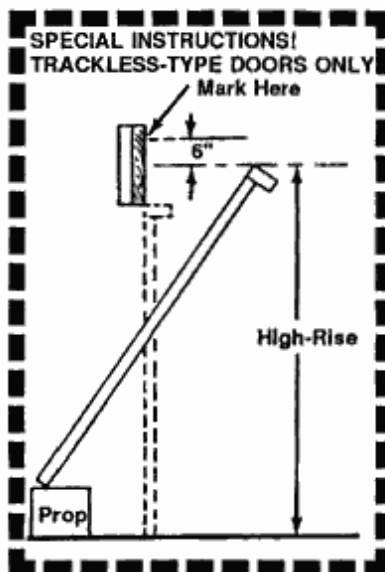

FIG. 13
- E. Using a 1/4" drill bit, drill pilot holes in the door header, using the marks as a guide. See Fig. 13.